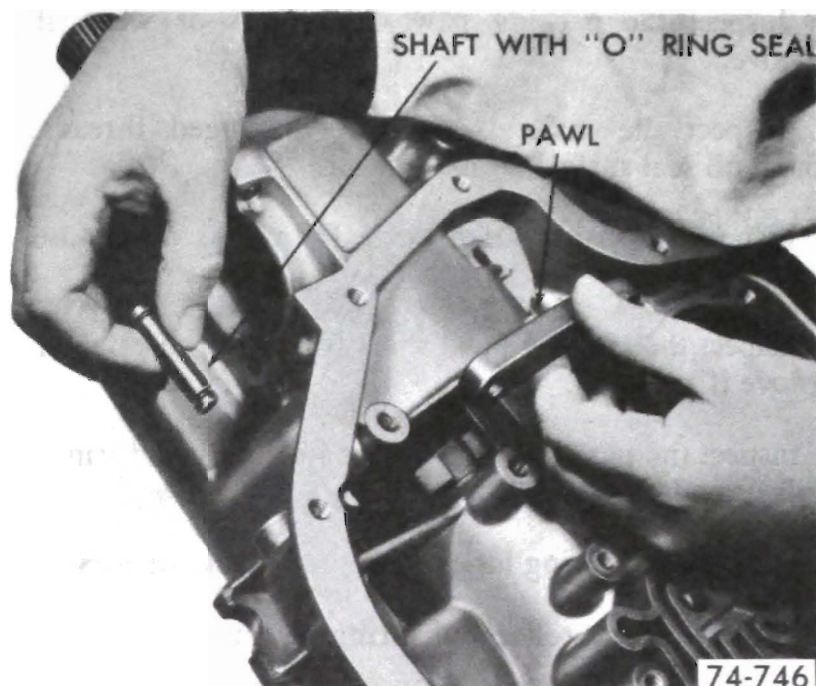

Figure 76-241
1. Install the parking pawl, tooth toward the inside case and parking pawl shaft. See Figure 76-241.